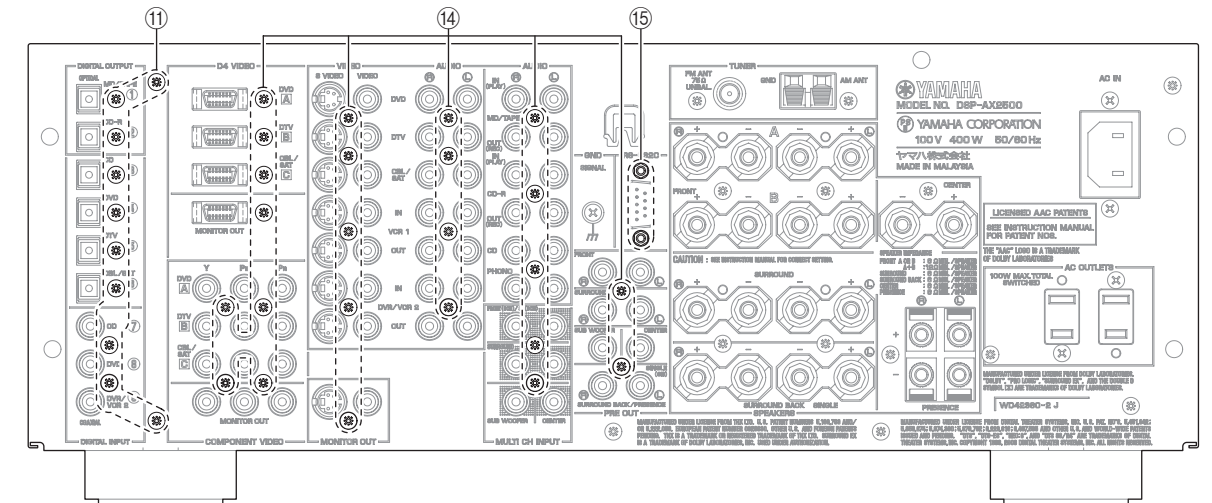

Fig. 4
- d. Remove 10 screws (⑪). (Fig. 4)
- d. ⑪のネジ10本を外します。(Fig. 4)
**6. Removal of CONTROL, FUNCTION (1), (2), (4) ~ (6), INPUT (1), (2) P.C.B.s and Tuner**
- a. Remove 23 (U, C, A, B, G models) / 22 (R, T, K, L models) screws (14). (Fig. 4)
- b. Remove 2 jack screws (15). (Fig. 4)
- d. Remove CONTROL, FUNCTION (1), (2), (4) ~ (6), INPUT (1), (2) P.C.B.s and Tuner. (Fig. A)
- a. ⑭のネジ24本を外します。(Fig. 4)
- b. ⑮のジャックスクリュー2本を外します。(Fig. 4)